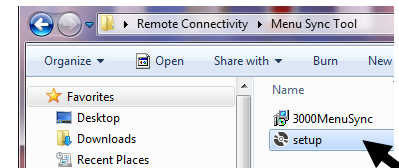

Figure 1
3. Double click on Setup (see Figure 1).